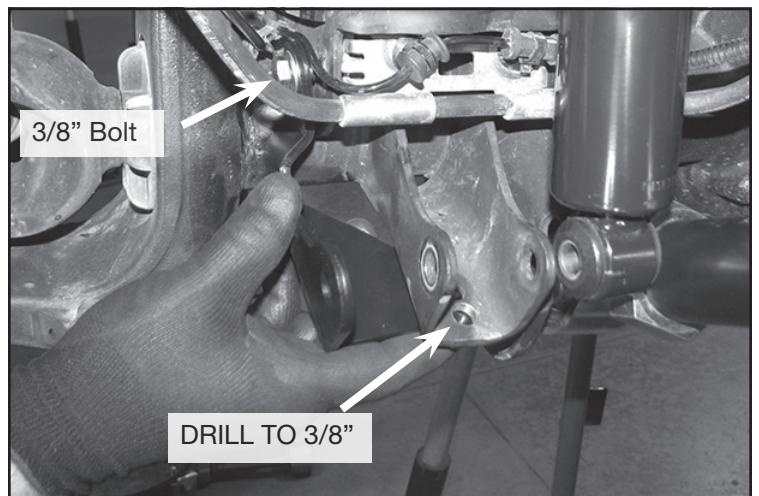

FIGURE 15 - STEP 15
15. Locate FT50619 (Lower driver shock bracket). Loosely install using the supplied 3/8" x 1-1/4" bolt, washer and FT83105 (Nuttap). Using the new bracket as a guide, mark the bottom hole on the lower shock bracket. Remove and drill to 3/8". **SEE FIGURE 15**